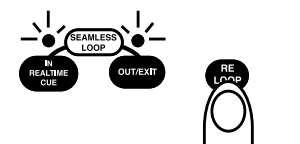

Fig. 13
- 6) To replay loop, press the **RELOOP BUTTON (30)**. The **IN REALTIME CUE (26)** and **OUT/EXIT (28)** LEDs will immediately begin flashing (Fig.13). The **LOOP INDICATOR (44)** in **LCD DISPLAY (13)** will also begin to flash.